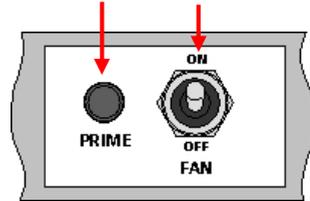

Figure 16: Adjust Target Rate
2. Press and hold either the **RATE** \oplus button to increase the target rate, or the **RATE** \ominus button to decrease the target rate (fig. 16). The longer the switch is held, the faster the number changes.